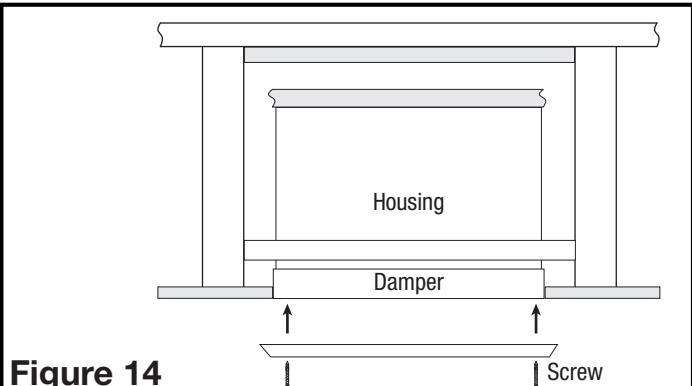

Figure 14
- Once the ceiling damper is installed and secure, position the metal fan grill in place aligning the two holes in the fan grill with the two extruded holes on the ceiling damper frame. Use the remaining two #8 x 1" screws to secure the grill onto the fan (**Figure 14**).